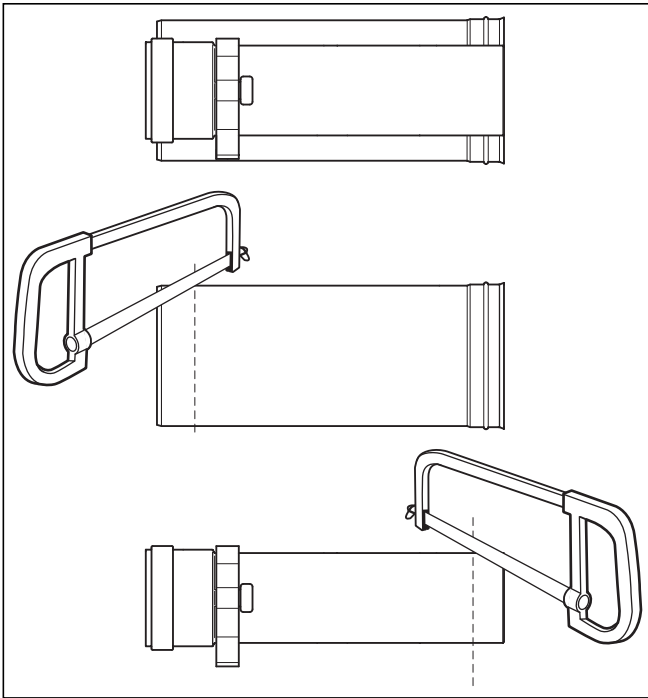

Fig. 2.25 Shortening of extension
**Shorten the flue pipe and outer pipe on the side facing away from the sleeve (Fig. 2.25). The spacer must remain locked in position at the flue pipe.**
- Push the flue pipe back into the outer pipe, as shown in Fig. 2.25.